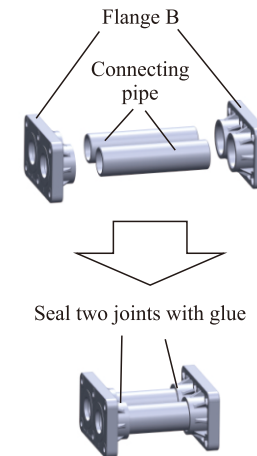

Figure 2-1-2
2. As Figure 2-1-2 shows, glue the pipe, flange B (1 piece in total).